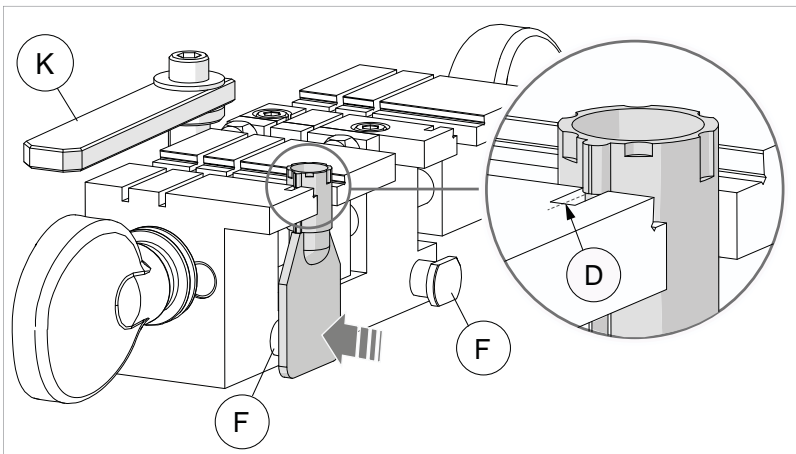
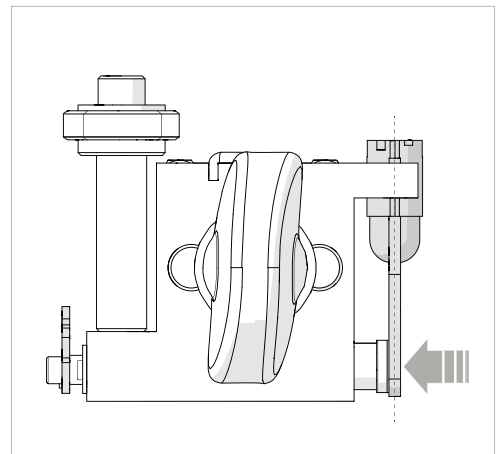
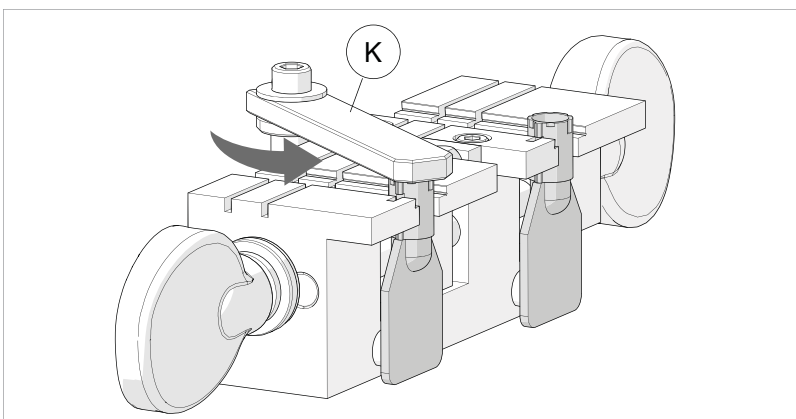
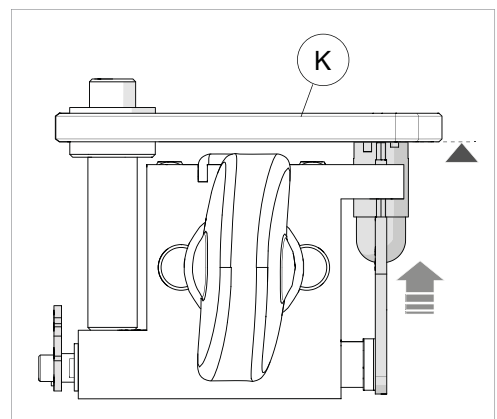

Fig. 30
Fig. 31
Fig. 32
Fig. 33
- align the key stop with the jaw notch (D) (Fig. 30).
- maintain alignment by holding the key head up against the positioning device (F) (Fig. 31).
- use the knob (E) or (E1) to lightly secure the key.
- take the aligning bar (K) over the key (Fig. 32). Raise the key until it is up against the bar (Fig. 33).
- secure the key with the knob (E) or (E1).
- 3) When both keys are in position, take the bar (K) to the idle position (Fig. 30).
- 5) Enable the tracer point spring function loosening nut (O).
- 6) Turn on the machine with the master switch (P).
- 7) Grip the levers (C) and (J) and turn on switch (Q) to start the motor.
- 8) Hold the carriage with the left-hand lever (C), lower the vertical carriage with the right-hand lever (J) until the tracer point centres on one of the cuts in the key and continue to lower (using the tracer point spring function) to reach cutting depth.
- 9) Move the lever (C) slightly to complete each single cut.